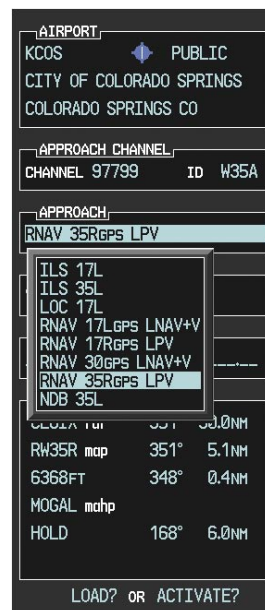

Figure 5-122 List of Available Approaches
c) Press the **ENT** Key. A list of available approaches for the destination airport is displayed as in Figure 5-122.
d) Turn either **FMS** Knob to select the LPV approach for 35R as shown in Figure 5-122.